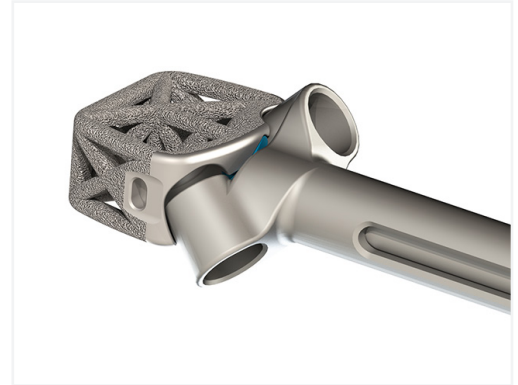

Figure 8
- ▶ Attach the implant to the Guided Inserter (Fig. 8).